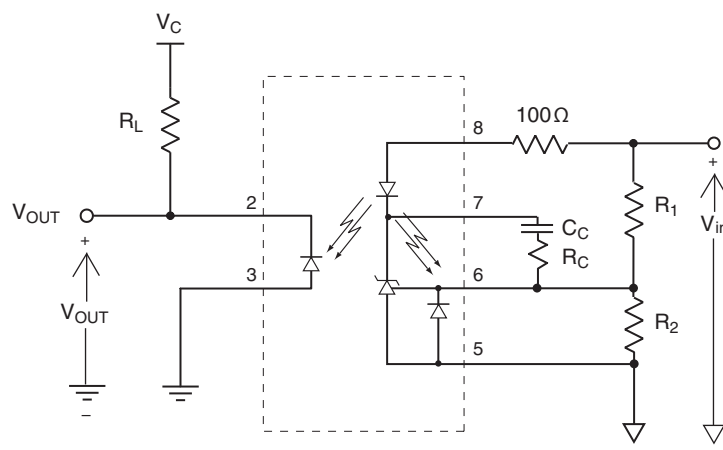

Fig. 6. Power Supply Feedback Application Circuit
2. The dynamic impedance is defined as  $|Z_{OUT}| = \Delta V_{COMP}/\Delta I_{LED}$ , for the application circuit in Figure 6,  $|Z_{OUT}| = K_1 R_1$ .
Setting the gain for the LIA120 is accomplished simply by setting two resistors. The application circuit in Figure 6 shows a resistor divider feeding the FB pin, so the operating conditions for the gain are governed by: